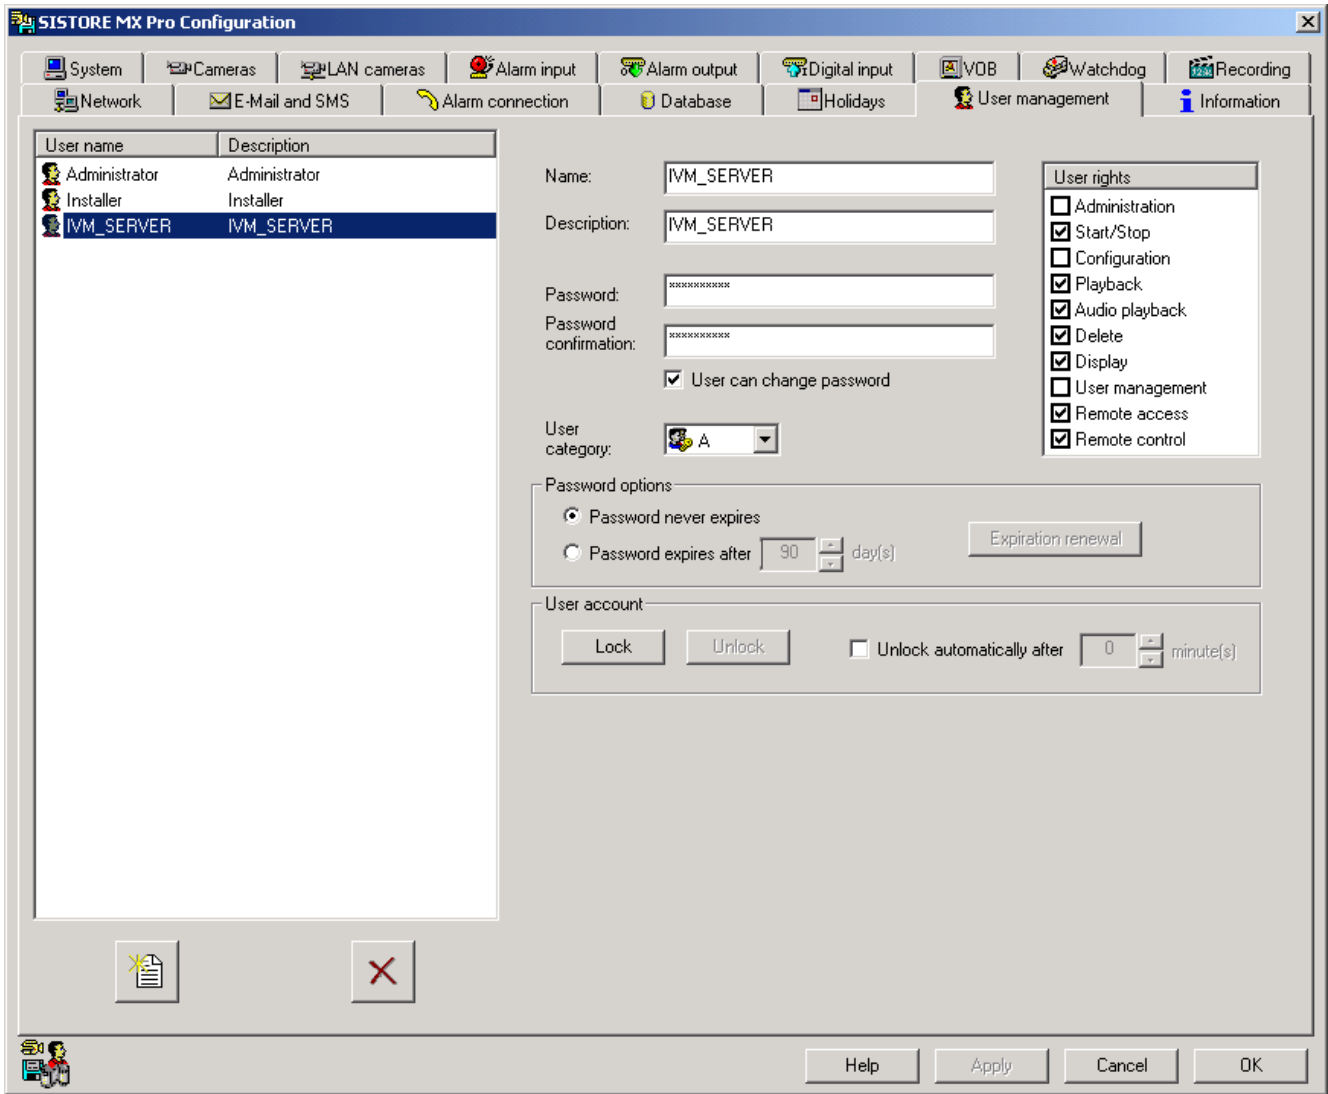

Fig. 185 User management
5. Make the appropriate settings is the dialog as shown in Fig. 185 above.